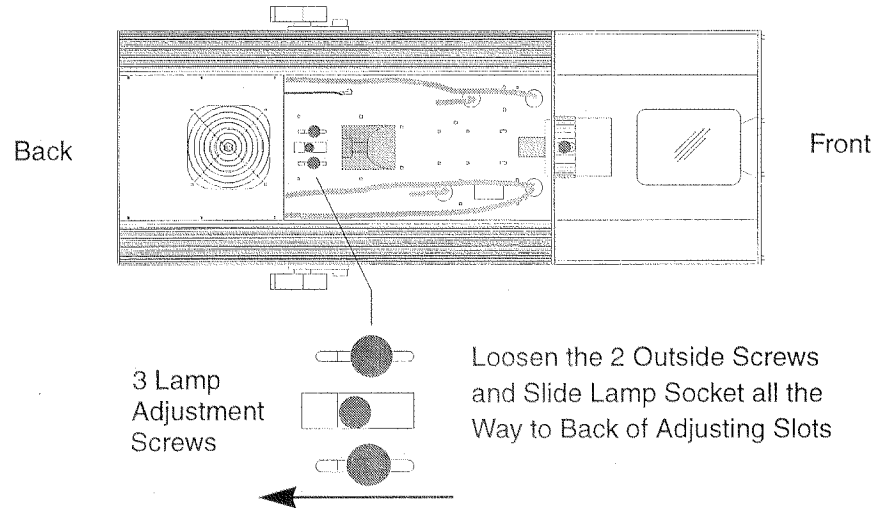

Figure 2.11. Underside Showing 3 Lamp Adjustment Screws
3. Locate the three lamp adjustment screws on the underside of the fixture. Loosen the two outside adjustment screws and slide the lamp socket as far back as possible towards the back of the fixture. This provides the clearance to install the lamp. Refer to Figure 2.11.